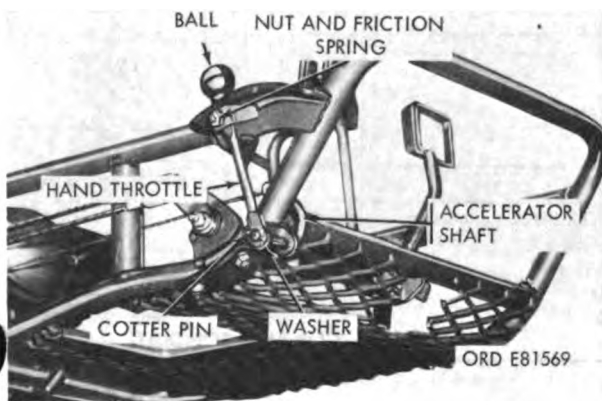

Figure 2-25. Location of cotter pin, hand throttle, and accelerator shaft.
- (3) Remove cotter pin and plain washer from end of accelerator shaft (fig. 2-25); slide accelerator to the left, out of the hand throttle lever and footrest, and remove plain washer from accelerator shaft.
- (4) Remove nut and friction spring from stud on hand throttle lever. Unscrew ball from lever (fig. 2-25) and remove lever from footrest.